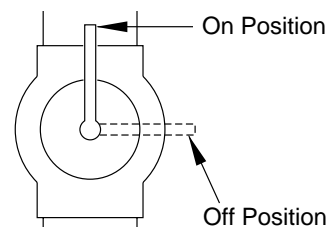

Figure 18 - Equipment Shutoff Valve
4. Turn equipment shutoff valve clockwise ↻ to OFF position (see Figure 18).
5. Wait five (5) minutes to clear out any gas. Then smell for gas, including near the floor. If you smell gas, STOP! Follow "B" in the safety information, column 1. If you don't smell gas, go to next step.
6. Turn equipment shutoff valve counterclockwise ↻ to ON position (see Figure 18).